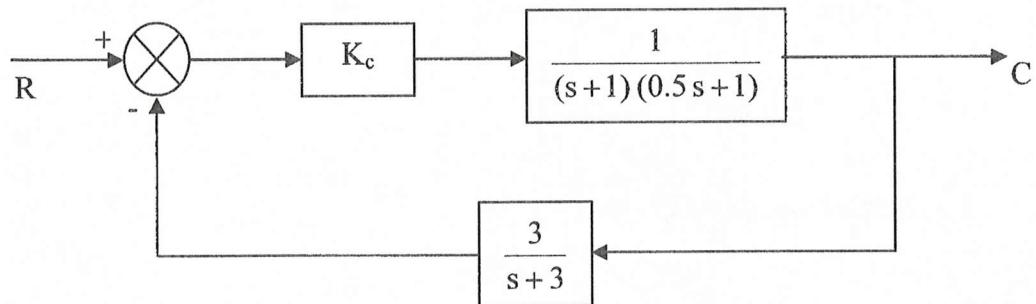

Figure Q. 3
- [c] Write the characteristic equation and construct the Routh array for the control system shown in Figure Q. 3. Is the system stable for (i) $K_c = 9.5$, (ii) $K_c = 11$ and (iii) $K_c = 12$?